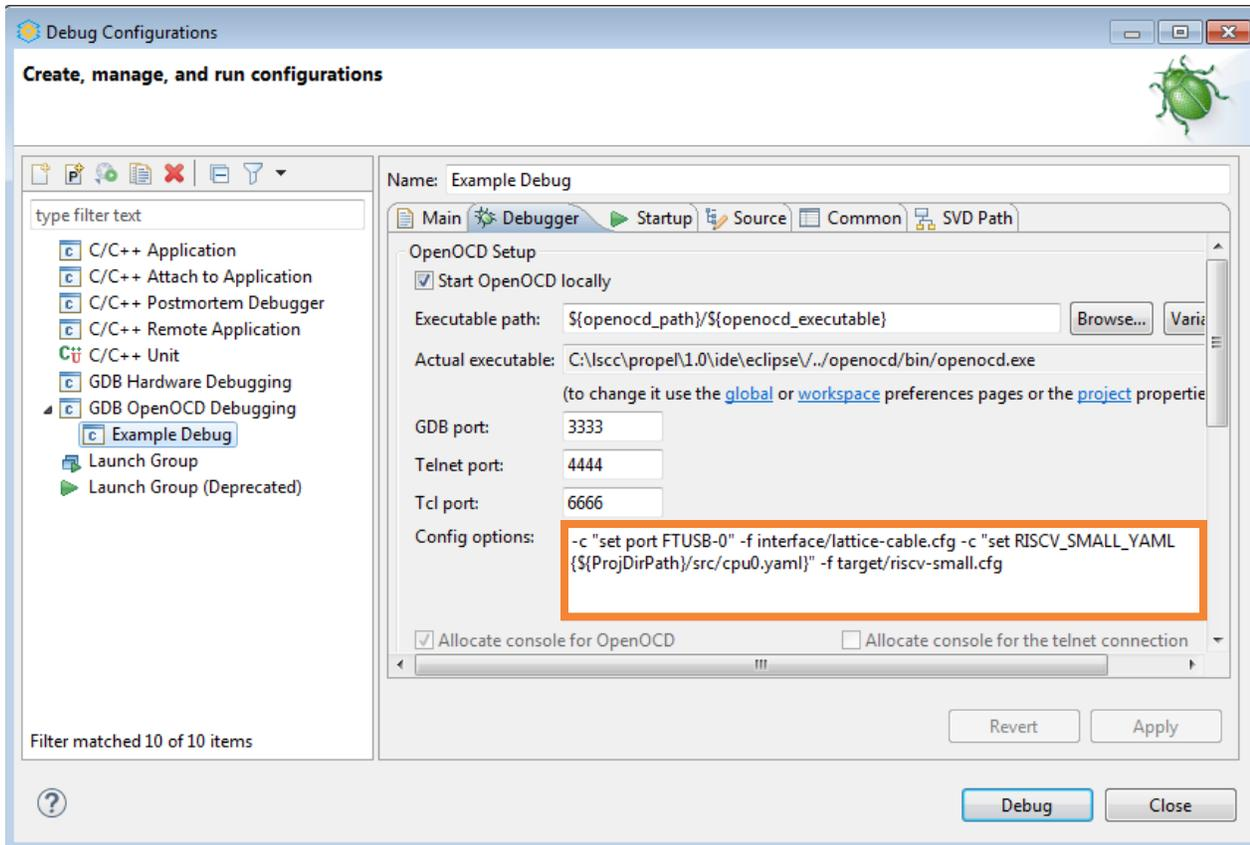

Figure 3.25 Debugger Tab of Debug Configurations
5. Select the **Debugger** tab (Figure 3.25). It is critical that the **Config options** field contains the correct command line options to be passed to OpenOCD.